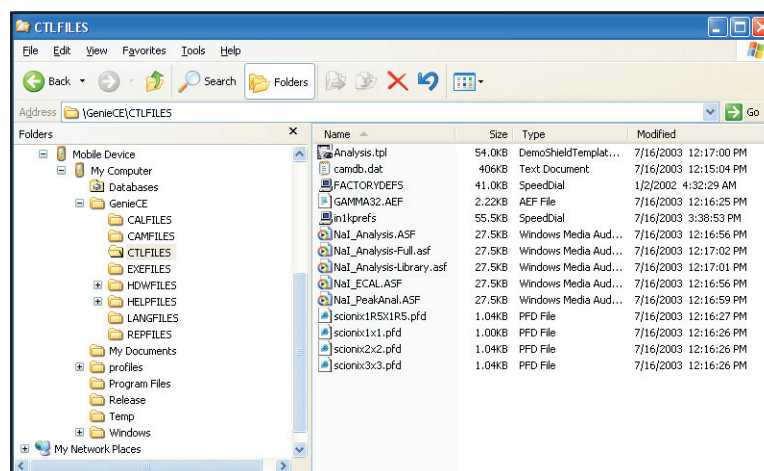

Figure 113 Directory Tree on the InSpector
2. Navigate to the folder Mobil Device\My Computer\GenieCE\CTLFILES using the Windows CE Explorer (Figure 113).